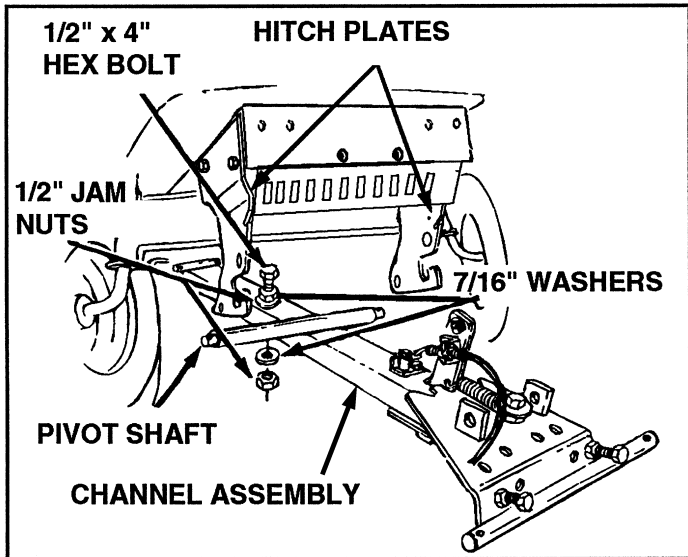

FIGURE 10
1. Assemble one 1/2" x 4" hex bolt, one 1/2" jam nut and one 7/16" standard washer into top of slotted hole in channel assembly. Assemble one 7/16" standard washer and one 1/2" jam nut on bottom of 1/2" bolt under channel assembly. See figure 10. **DO NOT TIGHTEN AT THIS TIME.**
2. Assemble channel assembly to hitch plates at front of tractor as shown in figures 10 and 11.